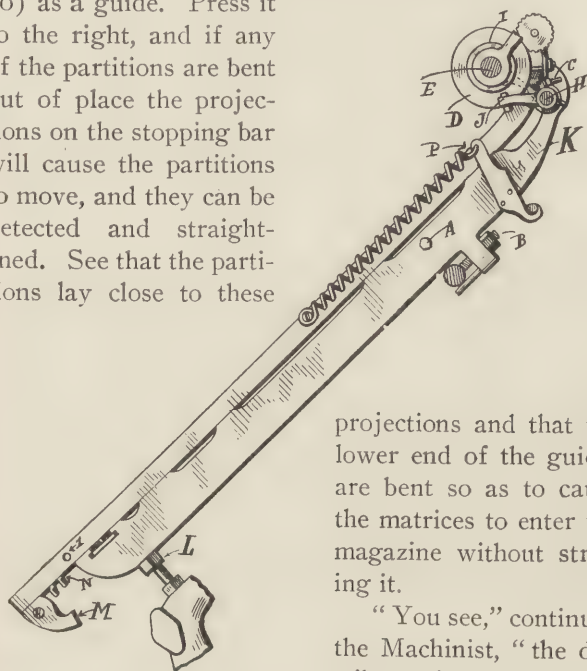

FIG. 29.
“In the first place, don’t get the idea that the distributor bar is at fault whenever the distributor gives trouble. The bar is made right and set right, so don’t ‘monkey’ with it. If the matrices fall into the wrong channel or clog in the distributor entrance, it is usually because the magazine is not set right. The two adjusting screws (*A*, Fig. 29) on either side of the magazine are for the purpose of setting the magazine in proper relation to the distributor bar. Throw the distributor belt off and turn the distributor by hand and set the magazine so that when the matrices fall from the bar they will just clear the partitions or guides. When the distributor is running normally the momentum given the matrices will carry them to the center of the channels. The other adjusting screws (*B*) on the magazine must be set so as to leave a space of 1-16 of an inch between the bottom of matrices suspended from the bar
slips if anything binds the distributor screws or matrix lift, thus preventing breaking or bending of the parts. The clutch is formed by a spring pressing a disk against the side face of the pulley (D, Fig. 29). The friction shaft (E) is geared to the distributor screws
"No," replied the Machinist; "the front end of the magazine must be adjusted to the proper height to permit the full stroke of the matrix escapements. Throw off the keyboard belts and touch the lower-case *e* and em-dash keys. Then turn the rollers by hand until the keyrods rise to their highest stroke. At this point there should be a clearance of 1-32 of an inch between the verge and the hook on the keyrod. Adjust by means of the screws (*L*, Fig. 29) under the magazine until this clearance is obtained."
The back entrance was then fastened to the magazine and the spring (*P*, Fig. 29) attached to it to hold it closed, after which the magazine was placed in position in the machine and the flexible front depressed beneath the mouth of the channel.